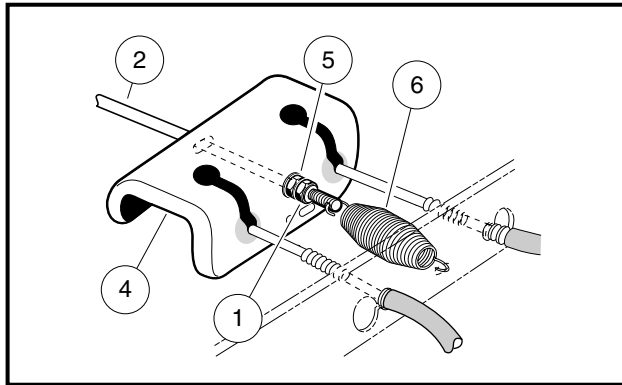

Figure 6-27 Rear Equalizer Adjustment
- 1.1. To provide slack in the brake cables, loosen the equalizer retaining nuts (1 and 5) on the equalizer rod (2) (**Figure 6-27, Page 6-13**).
- 2.2. Tighten the jam nut (5) on the rear equalizer rod (2) clockwise to 35 in-lb (4 N·m) (**Figure 6-27, Page 6-13**).
- 2.5. Hold the jam nut (5) on the rear equalizer rod (2) in place with a wrench and tighten the lock nut (1) to 13 ft-lb (17.6 N·m) (**Figure 6-27, Page 6-13**).
- If the brake pedal return spring (6) was disconnected while equalizing the brake cables, be sure to reconnect it before proceeding (**Figure 6-27, Page 6-13**).
2. Release park brake and loosen equalizer retaining nuts (1 and 5) on equalizer rod (2) to slightly loosen brake cable (**Figure 6-27, Page 6-13**).